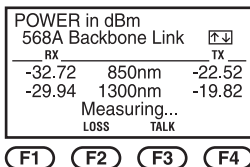
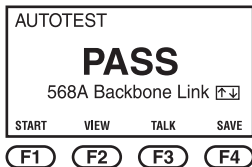
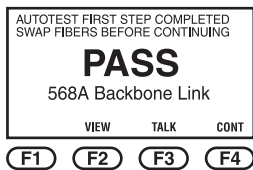

Figure 5-8. Autotest Optical Power Measurements.
Figure 5-9. Autotest Summary screen.
Figure 5-13. Autotest Summary screen.
Set the rotary dial on the Main Unit to **AUTOTEST**. The Fiber Meter displays the optical power measured at the receiving end of both cables (see Figure 5-8):
1. From the Autotest Optical Power Measurements display screen (see Figure 5-8), press the **F2** button on the Main Unit to start Autotest loss measurements. The Autotest Summary screen is displayed at the completion of the Autotest. See Figure 5-9.
1. On the Autotest Summary screen (see Figure 5-9), press the **F2** button on the Main Unit.
1. From the Autotest Optical Power Measurements display screen (see Figure 5-8), press the **F2** button on the Main Unit to start Autotest loss measurements. A message on the Autotest Summary screen will prompt you to swap the connections when the first step of the Autotest is completed. See Figure 5-13.
1. On the Autotest Summary screen (see Figure 5-13), press the **F2** button on the Main Unit.